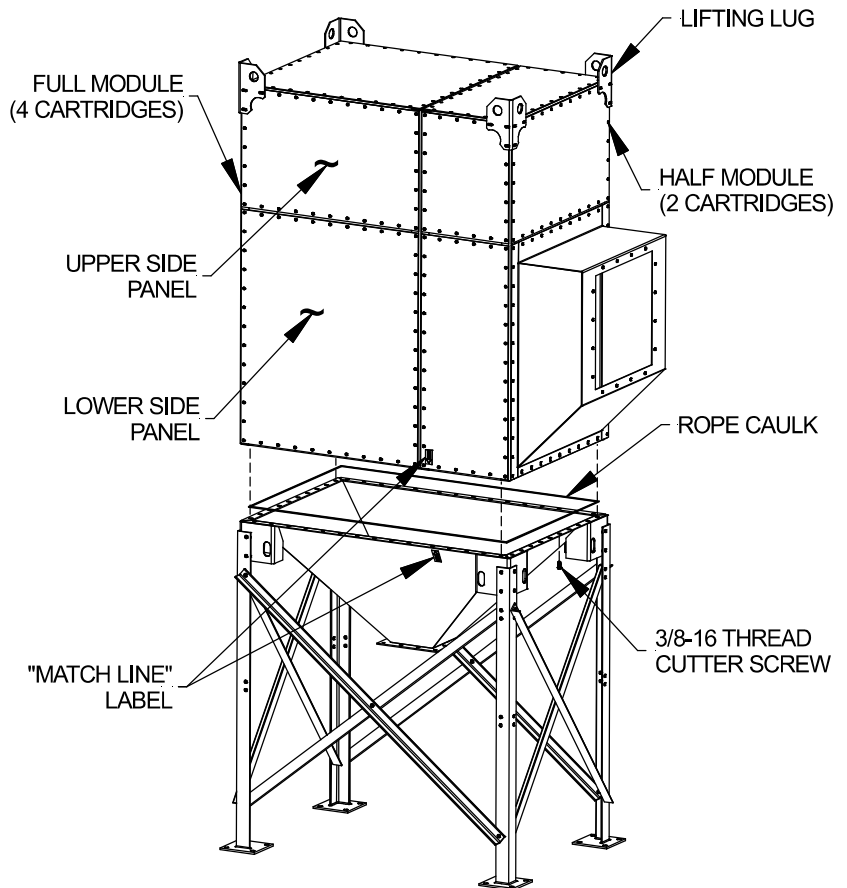

Figure 310.3
Move the assembly into final position. Ensure that inspection panels or optional device connections are in the desired orientation. **Note: On GS6, 10 & 20 collectors, the bin-vent to hopper(s) bolt-holes are not symmetrical. Turn the hopper/support structure assembly so that when the “Match Line” label(s) on the hopper(s) line up with the “Match Line” label(s) on the bin-vent, the collector is in the desired orientation. The “Match Line” labels do not have to line up perfectly; they are intended only for general hopper to bin-vent orientation –Figure 310.3.**
Remove any dirt or other accumulation from the hopper flange. Line the hopper flange with rope caulk as indicated in Figure 310.3 (page 18), an "s" (zigzag) pattern is recommended to ensure that there is a continuous seal on the flange.
Lift the filter module, using the lifting lugs provided and approved lifting equipment – Figure 310.3. Failure to connect lifting cable to all (4) lifting lugs may result in damage to the collector. On larger collectors, adequate cable length or a spreader bar is required to prevent damage to the collector.
Clean the filter module flange and set onto the hopper flange, taking care not to damage the flanges or rope caulk. Ensure that the orientation of the collector is as desired for your installation. **Note: On GS6, 10 & 20 collectors ensure that the "Match Line" label(s) on the filter module, line up with the "Match Line" label(s) on the hopper(s) - Figure 310.3.**
Attach the filter module to the hopper, using 3/8-16 thread cutter screws – Figure 310.3. Use a drift or alignment pin to align holes as necessary. Insert bolts into each of the four corners without tightening them. Insert the bolts from the corners to the center of the collector. **Note: Do not tighten bolts when starting to align hopper. Wait until all bolts have been started before tightening.** This will allow you to move and adjust the filter module as necessary **Keep the weight of the collector fully supported by the crane or forklift until all hopper bolts have been installed and tightened.**